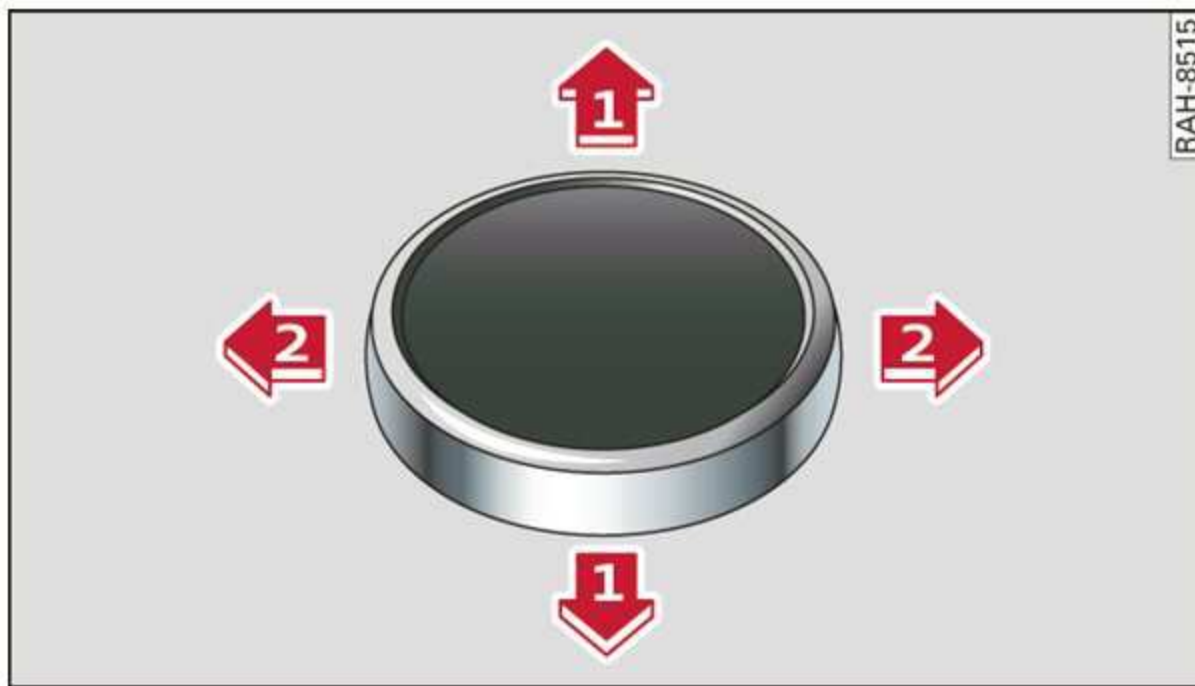

Fig. 103 Operating concept for the control knob with joystick function
You can push the control knob up or down ① ⇒ *fig. 103* or to the right or left ②.